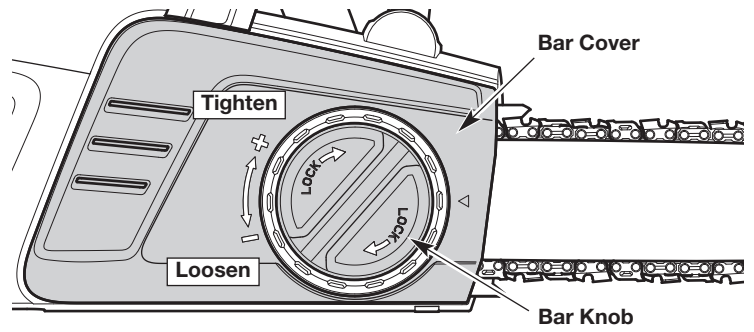
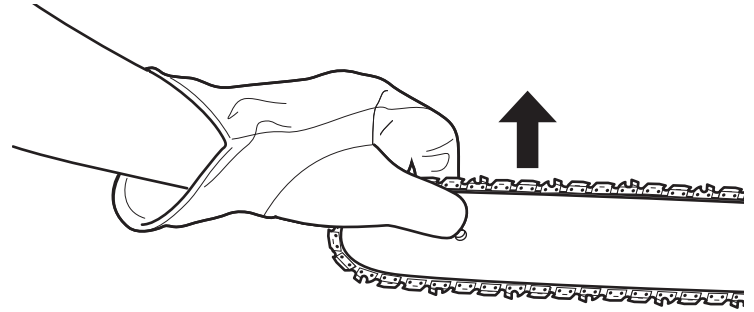
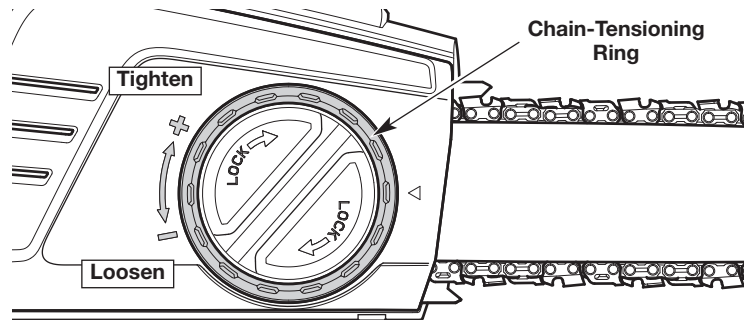
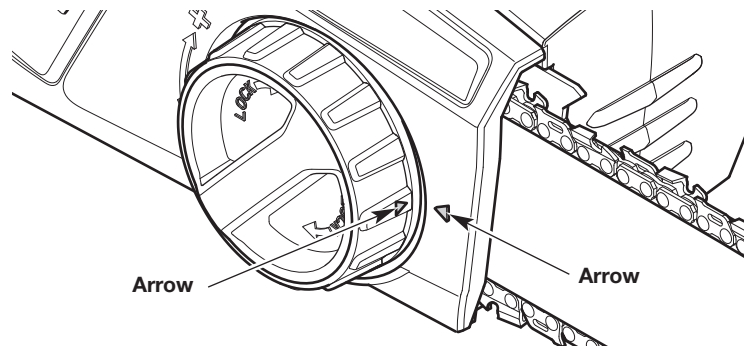

Fig. 39
Fig. 40
Fig. 41
Fig. 46
**NOTE:** A new saw chain tends to stretch and will need readjustment after as few as five (5) cuts. This is normal during the break-in period. The interval between future adjustments will lengthen quickly.
1. Turn the bar knob counterclockwise to slightly loosen the bar cover (Fig. 39). **DO NOT** remove the bar cover.
2. Hold the guide bar tip up (Fig. 40) and turn the chain-tensioning ring to adjust the tension (Fig. 41).
3. Continue to hold the guide bar tip up (Fig. 40). Turn the bar knob clockwise to securely tighten the bar cover (Fig. 39).
1. Turn the bar knob counterclockwise to loosen the bar cover (Fig. 39).
5. Turn the chain-tensioning ring (Fig. 41) until the arrow on the chain-tensioning ring aligns with the arrow on the bar cover (Fig. 46).
7. Turn the chain-tensioning ring (Fig. 41) clockwise until the bar cover is connected to the motor housing and the guide bar begins to move forward.
8. Turn the bar knob clockwise to tighten the bar cover (Fig. 39). **DO NOT** tighten the bar knob completely.
10. Hold the guide bar tip up (Fig. 40). Turn the bar knob clockwise to securely tighten the bar cover (Fig. 39).